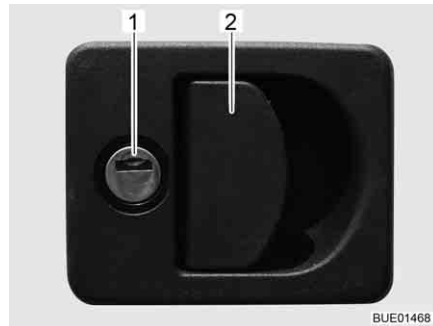

Fig. 48 Flap lock with recessed handle
- Insert key into locking cylinder (Fig. 48,1) and turn a quarter turn. The flap lock is unlatched.
- Pull on the lock handle (Fig. 48,2). The external flap is open.